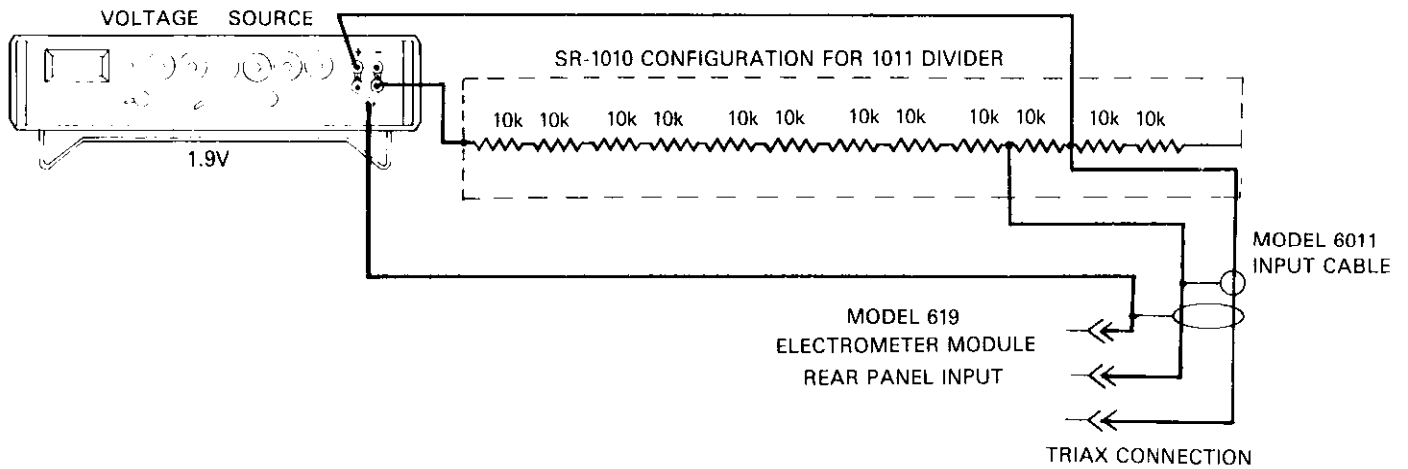

Figure 6-3. Supply Calibration .200mV
2. 200mV A/D Reference Supply Calibration: Using the DC Calibrator and 10:1 divider, apply +190.00mV to the input of the Electrometer. After actuating the Zero Correct, release the Zero Check and adjust R411 for a display reading of +190.00 -3 to within  $\pm 1$  count. Refer to Figure 6-3.